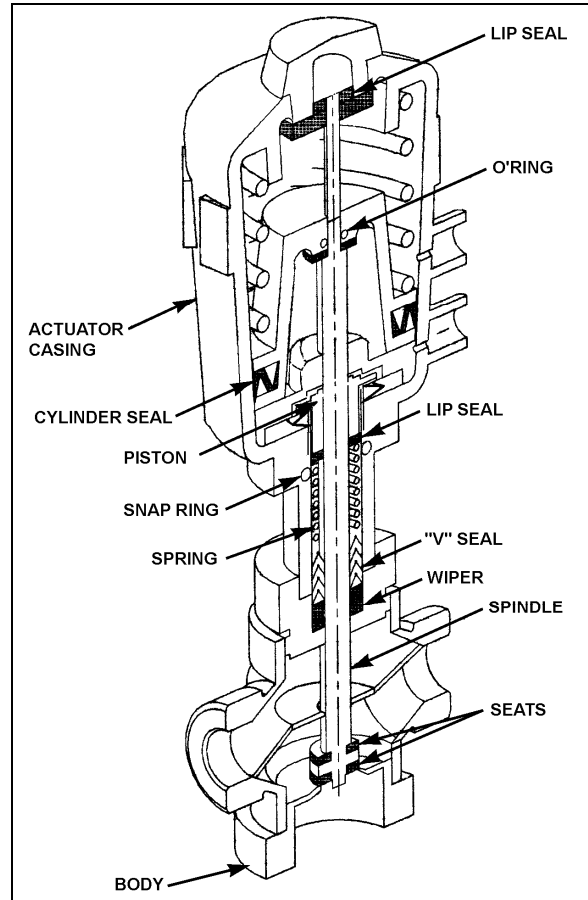

FIGURE 44: PNEUMATIC WATER VALVE 22330
2. Tighten the nipple in place in the body cavity as per figure 44. Fasten pilot solenoid valve to the pneumatic water valve. Reconnect air supply pressure and electrical current to the pilot solenoid valve.